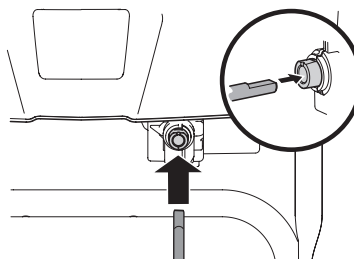

Figure 2-35
- Units with Electric Chute Control - Insert other end of flex shaft into chute control rod coupling under dash panel. Make sure to line up flat end of rod and flat end of coupler. You may need to rotate rod around until these two surfaces line up. See Figure 2-35 inset.